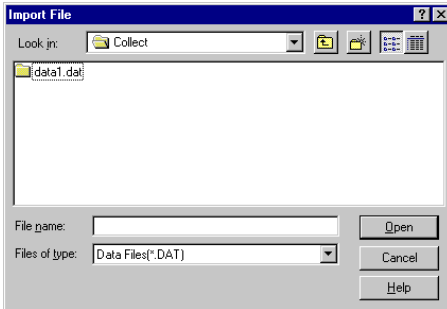

Figure 4.7: Importing a File
3. Select the **I**mport **F**ile sub-menu item. You will advance to the [Import File] dialog box, similar to the example shown in Figure 4.7.